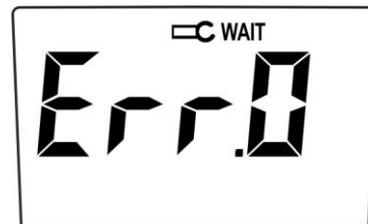

Fig. 4
3. If, during the instrument’s calibration process, the clamp is opened before calibration process is complete the “**Err.0**” message is displayed (see Fig. 4). After the clamp is closed, the calibration process starts once again automatically from the beginning.